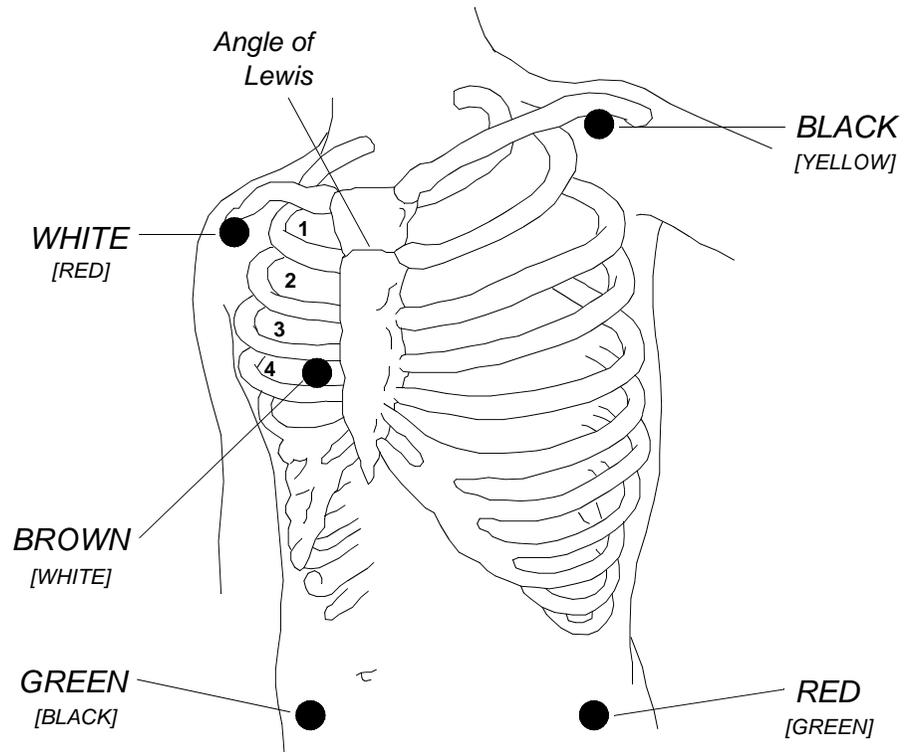

Figure 1-4 Five Electrode Placement
Electrodes for five-lead sets can be placed in various positions. One arrangement is shown in Figure 1-4. The right leg (RL) lead serves as a ground. (European colors in brackets).